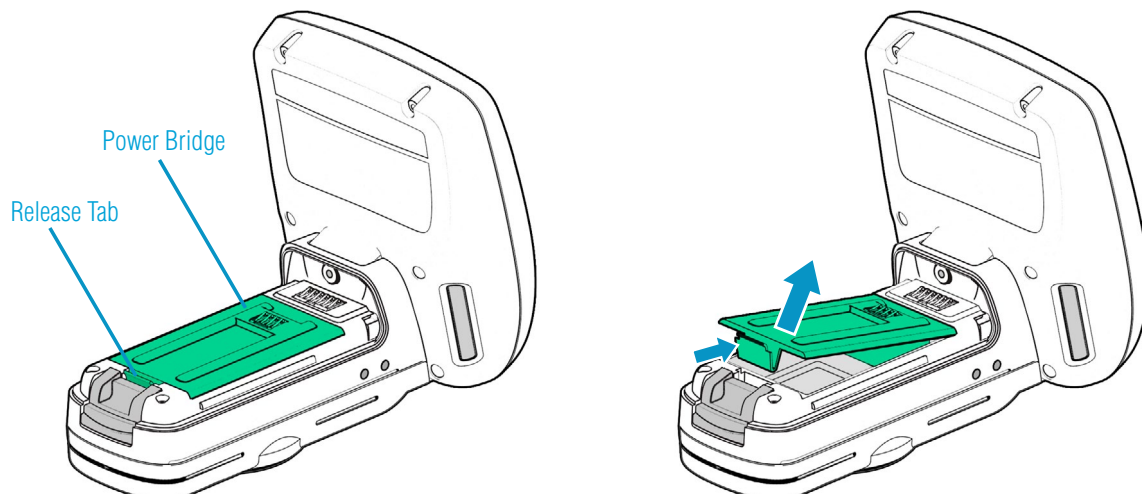

Figure 8: Remove Power Bridge
2. Press on the Release Tab to lift the Power Bridge out of the main body of the reader (see “Figure 8: Remove Power Bridge”)